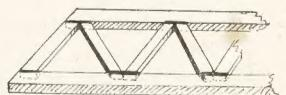

Fig. 4—Showing fixing of cross pieces
This part, shown at Fig. 4 (G) is cut to the size given from ½in. wood. Cut it as a plain rectangle first. Then cut a second bit of the wood, ½in. wide and 1½in. long. Get this an easy fit in the film groove, then glue it behind the gate in the centre, shown by the dotted lines. Glasspaper the surface of this to reduce its thickness just enough to allow the film to pass between it and the panel. Test this with a piece of the actual film.